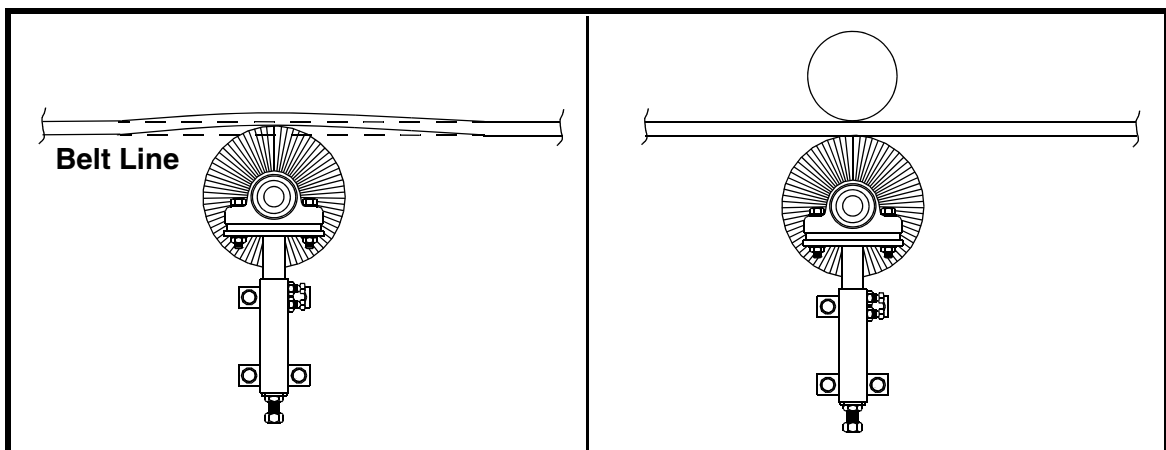

Figure 6. Martin® Brush Cleaner Changing Belt Line
- c. Make sure Martin® Brush Cleaner is not changing belt line (see Figure 6). If it is, install belt support directly above brush.